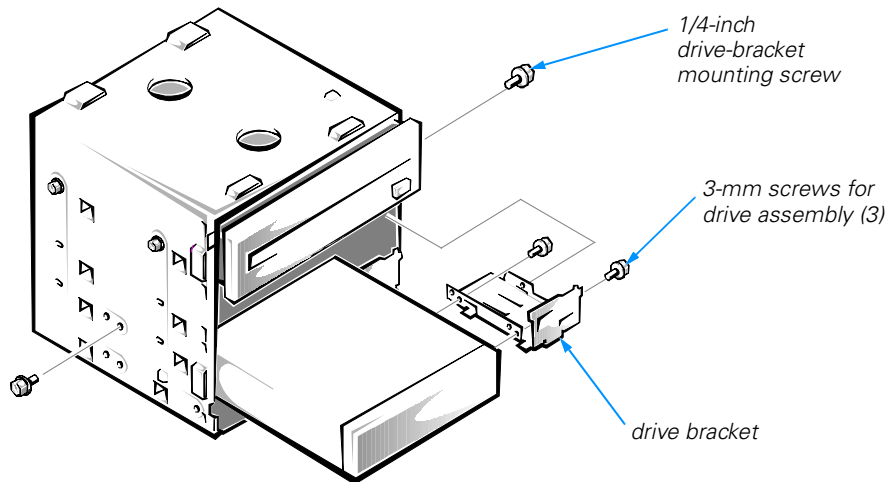

Figure 3-9. Installing a Drive in the Upper 3.5-Inch Drive Bay
4. Remove the 6/32 x 1/4-inch screw securing the drive bracket to the drive cage and remove the bracket. Attach the drive to the bracket with two screws on the right side as shown in Figure 3-9.
- Slide the drive assembly into the drive bay, and secure it to the drive cage with one screw on each side as shown in Figure 3-9.